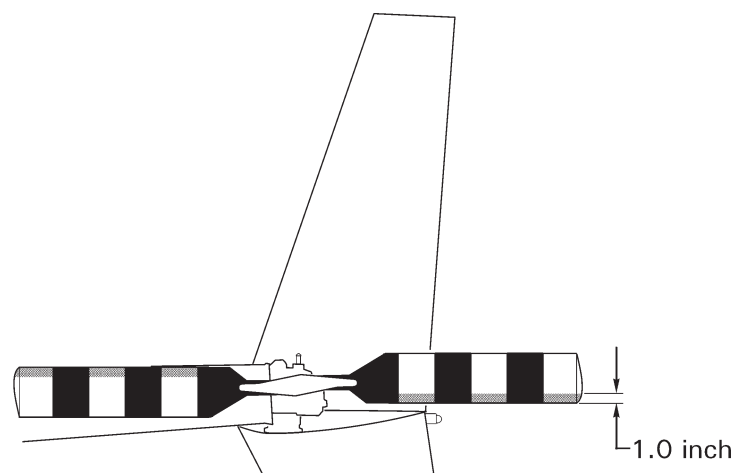

FIGURE 2
Preferred blade condition is with fully painted leading edge. Use two coats of Desoprime CA7502 epoxy primer (or equivalent). Scuff primer prior to applying second coat. Use Dupont Imron polyurethane enamel or equivalent paint. Refer to aircraft Maintenance Manual (MM) for specific paint codes. Blades with striped leading edges may be painted with solid black leading edge as shown in Figure 2 if desired for ease of application: